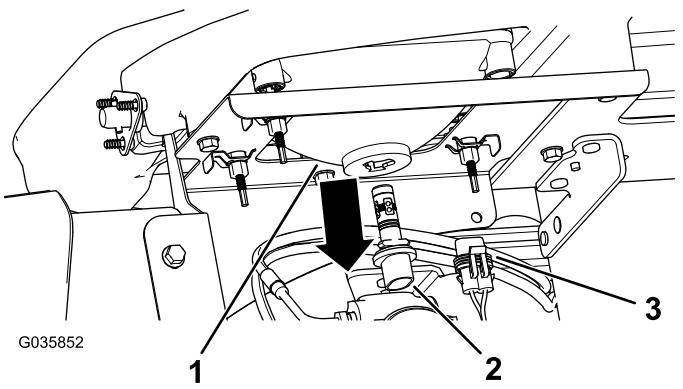

Figure 42
3. Disconnect the electrical connector for the harness from the connector of the lamp assembly at the back of the headlight housing (Figure 42).
4. Rotate the lamp assembly 1/4 turn counterclockwise and moving it rearward, out of the headlight housing (Figure 42).
with the slots in the headlight housing (Figure 42).
- Secure lamp assembly by turning it 1/4 turn clockwise (Figure 42).
- Connect the electrical connector for the harness to the connector of the new lamp assembly (Figure 42).